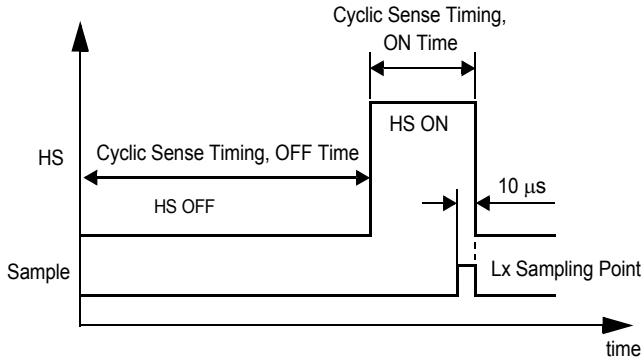

Figure 30. HS Operation When Cyclic Sense Is Selected
- TIM2—Selects an appropriate timing for sensing the wake-up circuitry or cyclically supplying devices by switching the HS on or off. TIM2 is selected when bit D3 is 1 (Table 32). Figure 30, page 49, describes HS operation when cyclic sense is selected. Cyclic sense timing characteristics are described in Table 34, page 49.